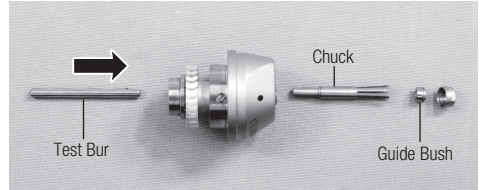

Fig. 19
- 3) When the Rotor Nut is loose, push out the chuck carefully with the Test Bur or the shank of the bur from the back of the cartridge, the Guide Bush and the chuck will come out. (Fig. 19)